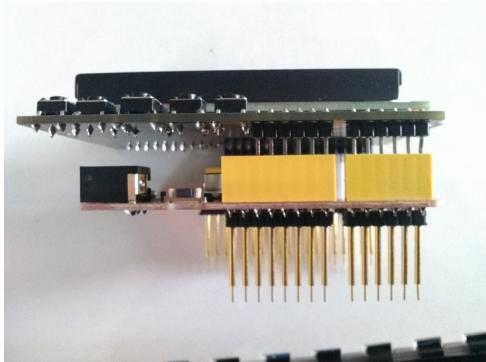

Figure 9: Button side set up
1. Add the LCD display shield to the Arduino and temperature sensor (consult Figure 11 for pin allocation). Figures 9 and 10 shows the attachment of the LCD to the Arduino.